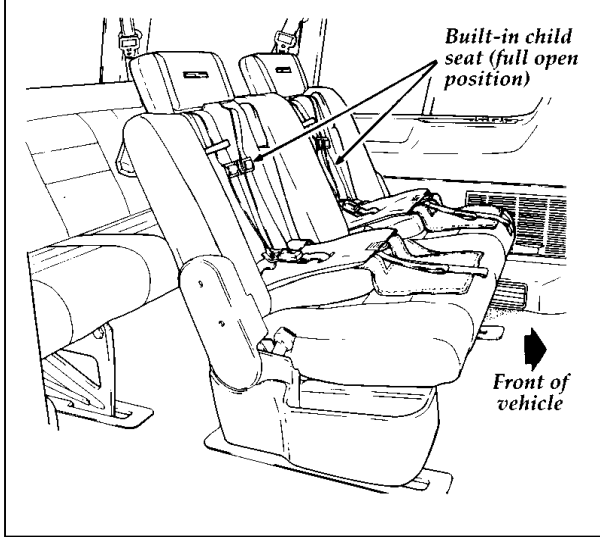

Figure 2
2. Continue to unfold the child seat until it rests on the seat as shown in Figure 2.